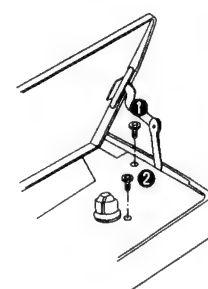

Fig. 10
3. Remove 2 screws (①, ②) in order to remove the motor. (See Fig. 10.)